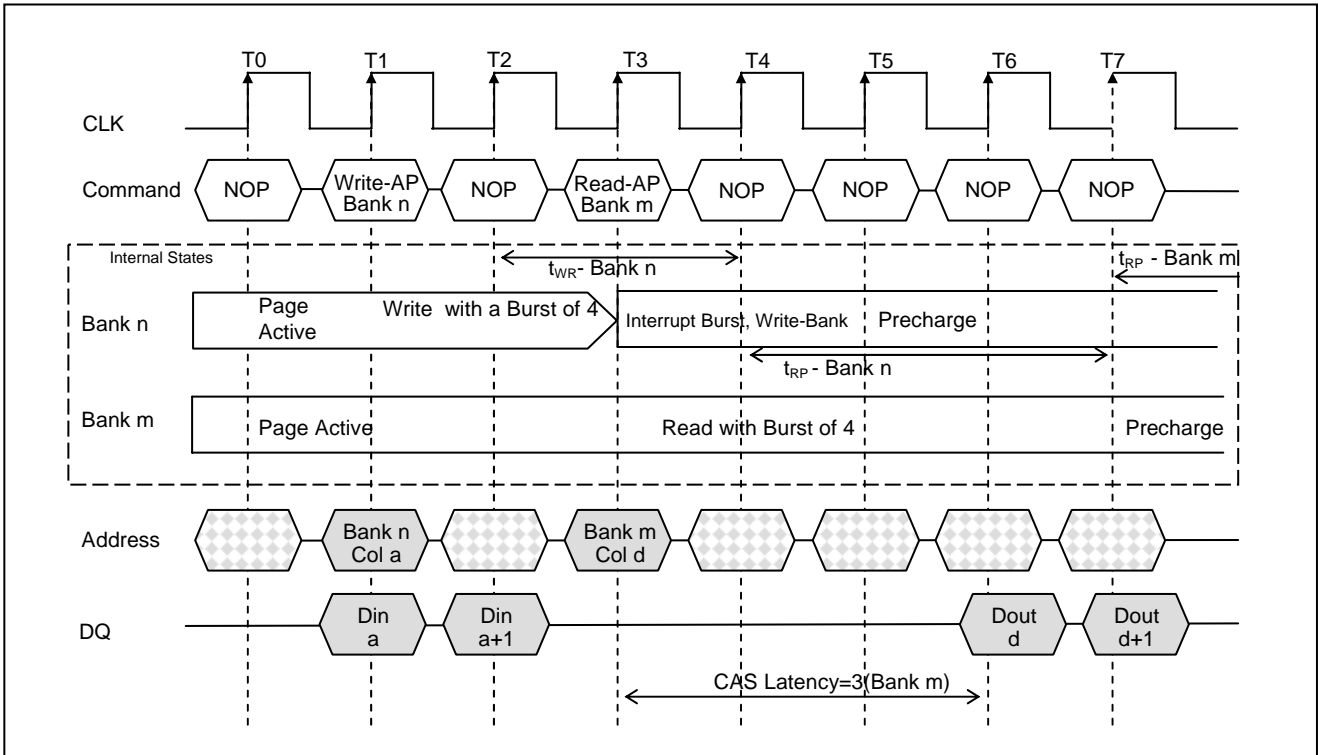

Figure 27. Write with Auto Precharge Interrupted by a Read(CAS Latency =3)
3. Interrupted by a Read(with or without auto precharge): A Read to bank m will interrupt a Write on bank n when registered , with the data-out appearing CAS latency later. The Precharge to bank n will begin after  $t_{WR}$  is met, where  $t_{WR}$  begins when the Read to bank m is registered. The last valid Write to bank n will be data-in registered one clock prior to the Read to bank m.(Figure 27. )